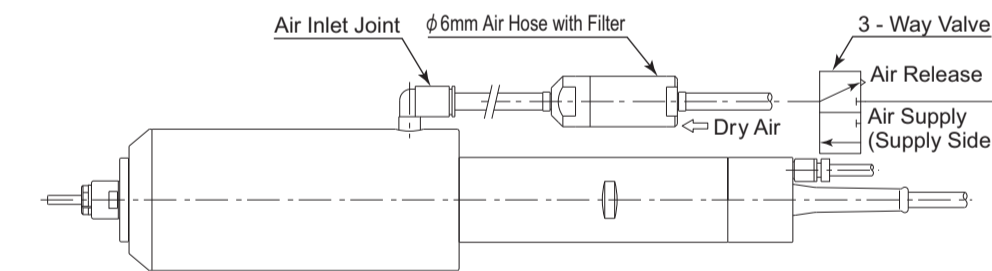

Fig. 3
- Connect the provided  $\phi$  6mm Air Hose with Filter and 3-way valve to Air Inlet Joint shown in Fig. 3.